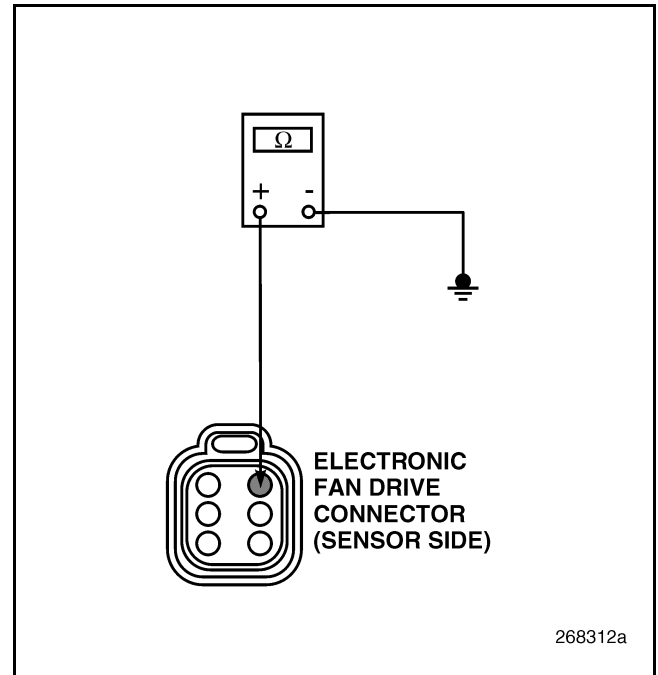

Figure 129
3. Check for continuity between the sensor side of electronic fan drive connector pin 1 and a good ground (see Figure 129).